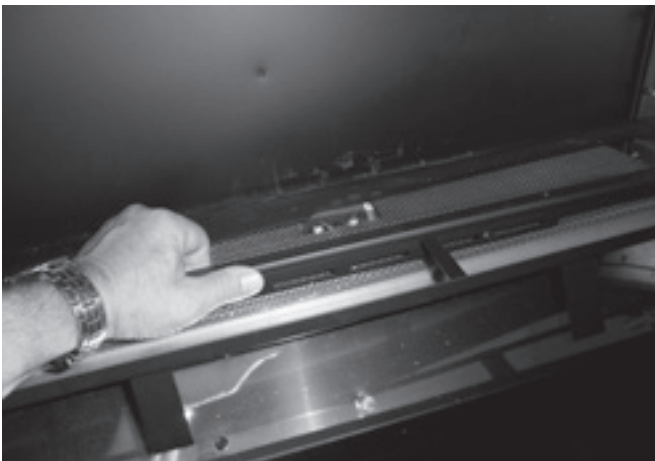

Figure 9
8. Next, grasp the burner cover assembly in front of the burner screen and lift upward to remove, and set aside. **See Figure 9.**